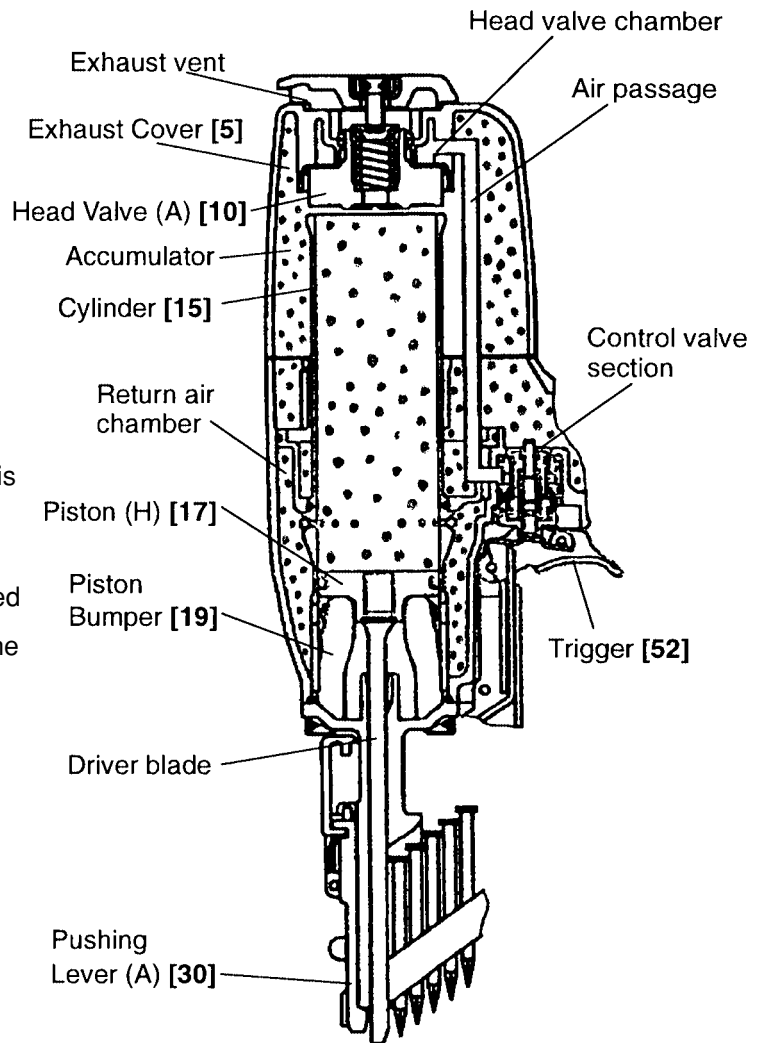

Fig. 16
(3) During return: (Fig. 16 and Fig. 17)